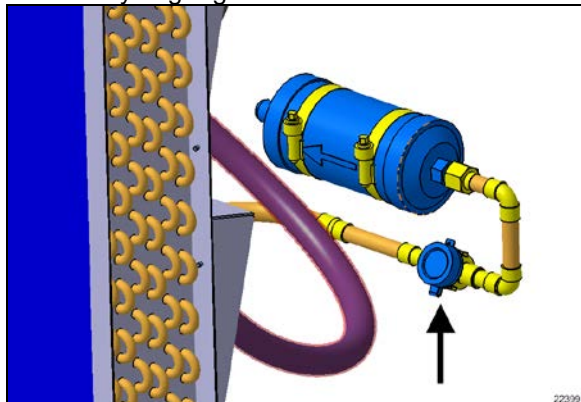

FIGURE 82: MOISTURE INDICATOR SIGHT GLASS
- 2- With the AC on for at least 10 minutes, the moisture indicator sight glass (FIGURE 82) should be clear, not milky, without bubbles in the stream of refrigerant. Bubbles in the moisture indicator sight glass are sign of refrigerant low charge. The filter-dryer nearby should be near constant temperature, less than 5°F differential between inlet and outlet. A partially blocked filter will make some flash gas and give a "milky" sight glass.